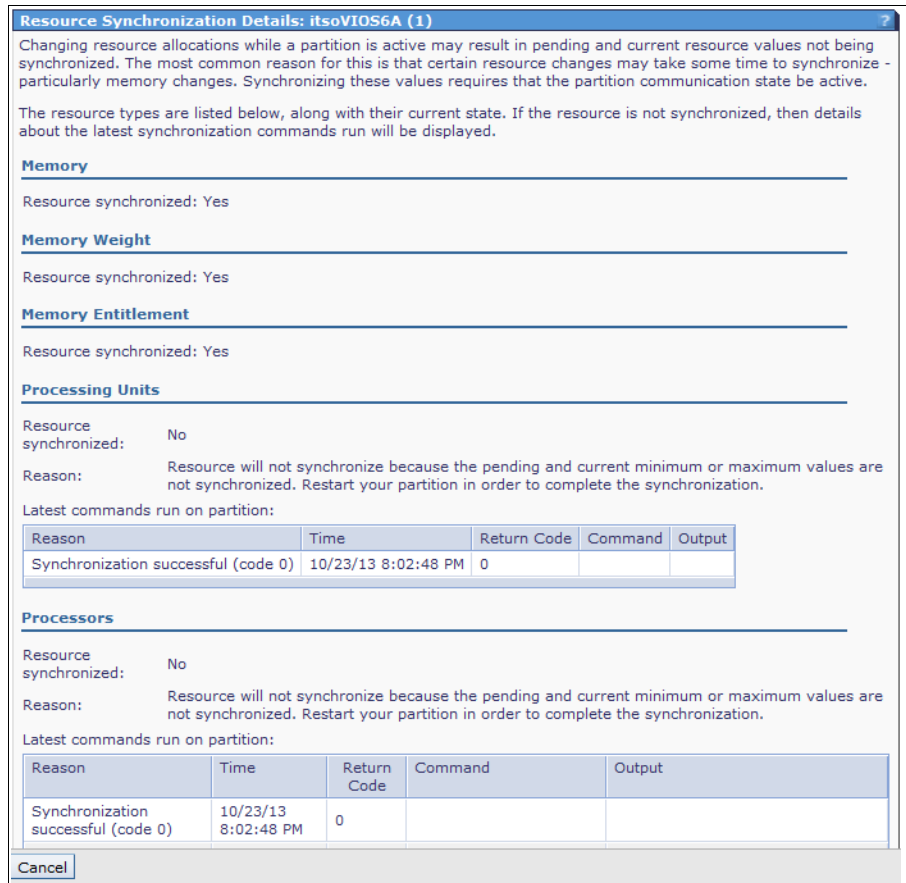

Figure 8-63 IVM Resource Synchronization Details view
- Click **details** to display the Resource Synchronization Details window, as shown in Figure 8-63. This example indicates that all of the changes that were made were synchronized, with exception of processor modifications. Those changes are pending and require a restart to update.